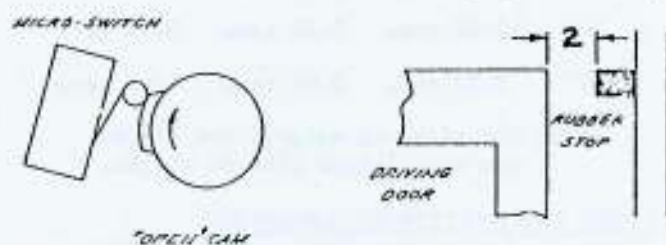

FIG. 30 "Open Door" stop cam adjustments.
- (d) Slide the driving door to a distance of about 3 inches from the rubber stop (see FIG. 30)